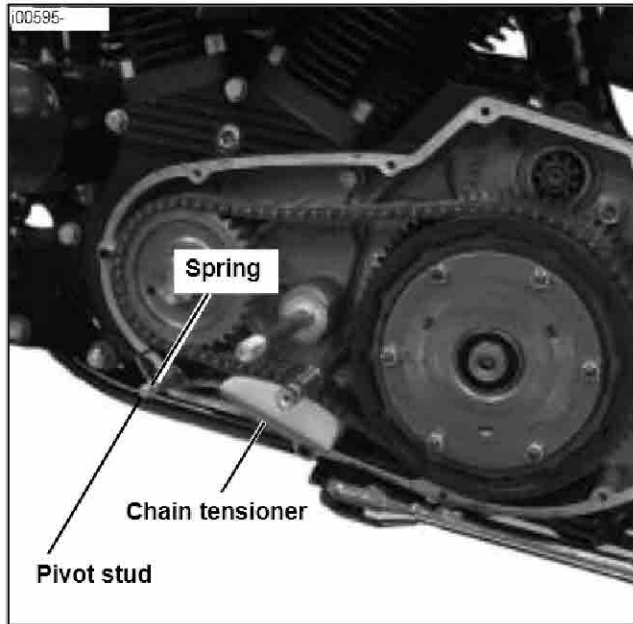

Figure 2. Chain Tensioner Installation
8. See Figure 2. Slide the new chain tensioner and spring onto the pivot stud. Place the 3/8 in. steel washer onto the stud.